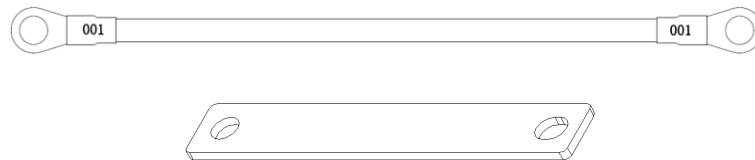

Figure-13 Schematic diagram of the series DC cable/copper bar
1). Take out the matching series DC cable/copper bar as shown in Figure-13 and separate the series DC cables according to the cable labels.